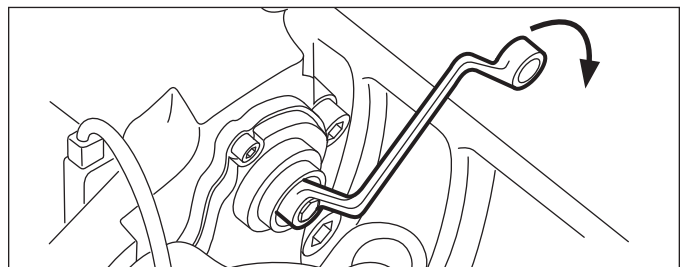

Figure 21 – Applying Moderate Applications of the Brakes: The Wrench Moves Clockwise as the Running Clearance is Diminished
4.2.3 Where the adjuster mechanism is able to be backed-off normally, position a box-end wrench on the shear adapter so that it can turn clockwise freely without coming into contact with parts of the vehicle (See *Figure 21*). Make five to ten moderate applications of the brakes [at about 30 psi (2 Bar)], and observe that the box-end wrench or socket should turn clockwise in small increments.